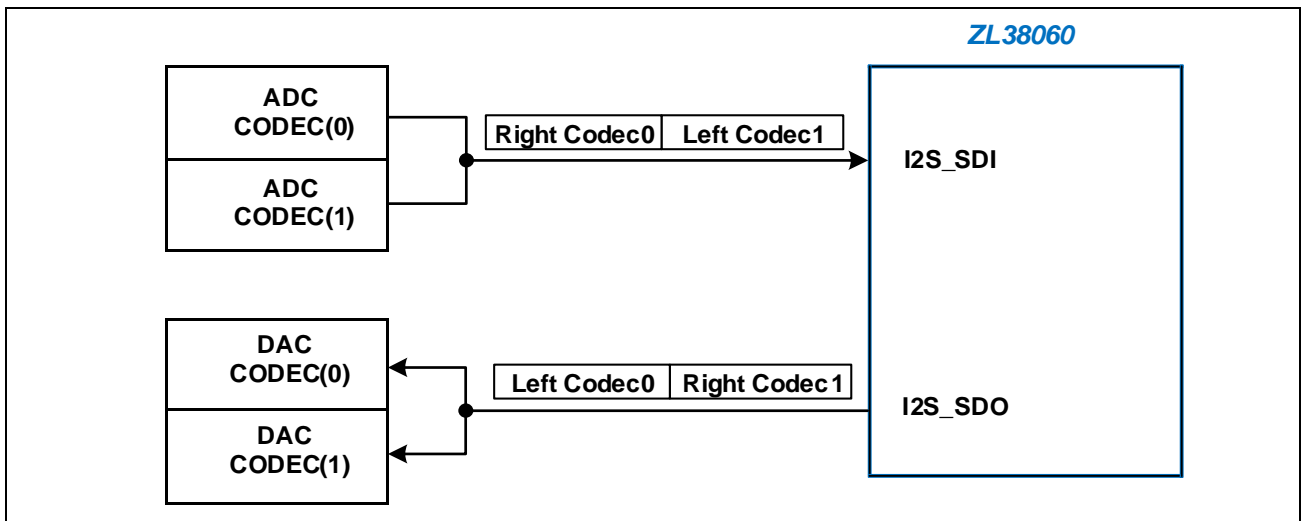

Figure 10 - Dual Codec Configuration
Each I²S interface can support one dual channel Codec (Figure 10) through the Codec's I²S interface. The four 16-bit channel processing capacity of the DSP is spread across the two input channels from the ADCs of Codec(0) and Codec(1), and the two output channels to the DACs of Codec(0) and Codec(1).